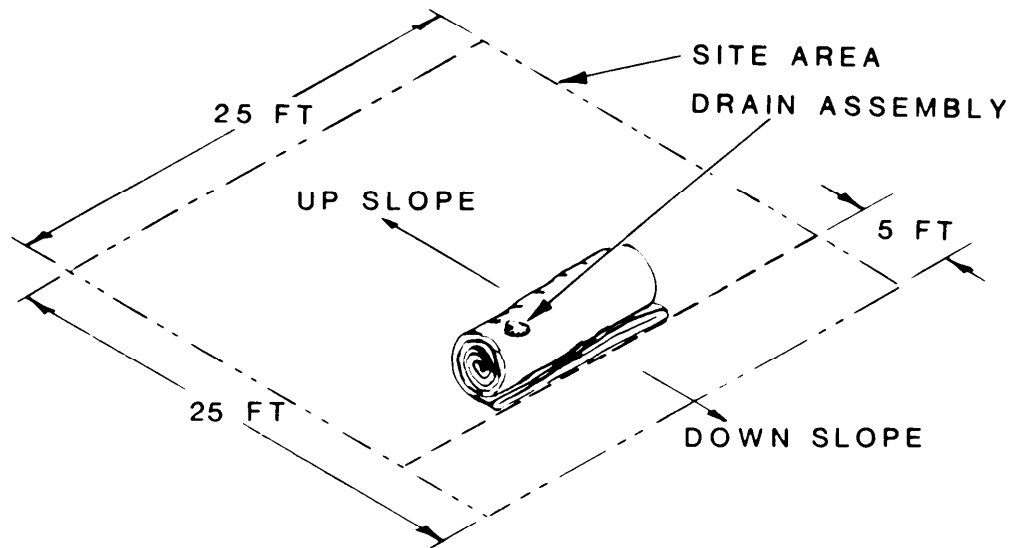
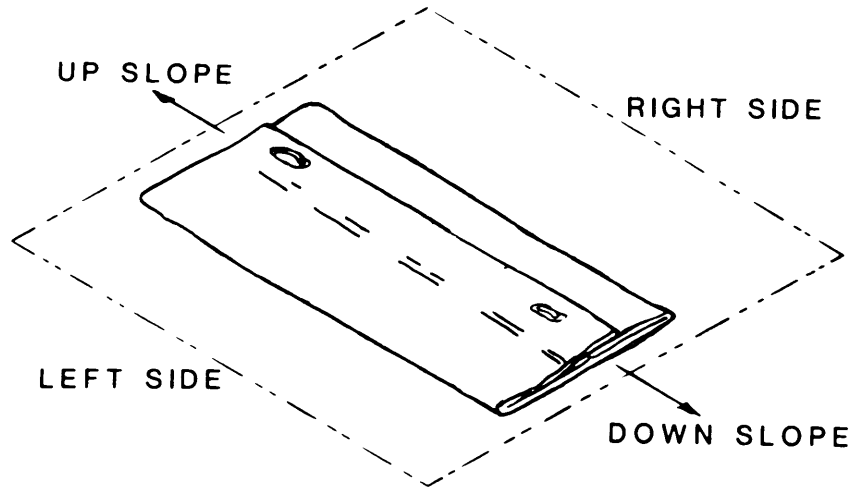

Figure 2-4. Rolled Tank
Figure 2-5. Fully Unrolled Tank
- a. Site Selection and Preparation (See Figure 2-4). Select or grade a level area of at least 25 x 25 ft (7.6 x 7.6 meters); this will provide the desired 5 foot perimeter around the empty flat tank. If the site has a slight slope, place the tank side with the drain fitting at the lowest end. For best tank operation, the tank should have a slope of 3 inches per 100 feet. The site must not be subject to flooding or high water. Clear the site of all sharp objects.
- (5) Position rolled tank on down slope side of site (See Figure 2-4). Tank should be positioned to unroll toward up slope direction.
- (6) Remove ties from rolled tank.
- (7) Unroll tank (See Figure 2-5).